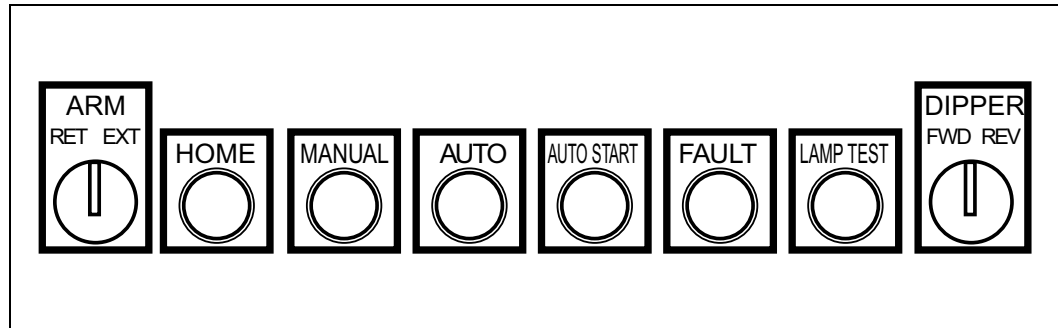

Figure 4-6: Manual Push-buttons
6. Press the MANUAL push-button (Figure 4-6). The MANUAL push-button lights indicating that the machine is ready for manual operation.
7. Press and hold the HOME push-button (Figure 4-6) until the arm and dipper are centered (at the Home position) and the HOME push-button is lit. This sets the center position for the ladle arm and dipper.